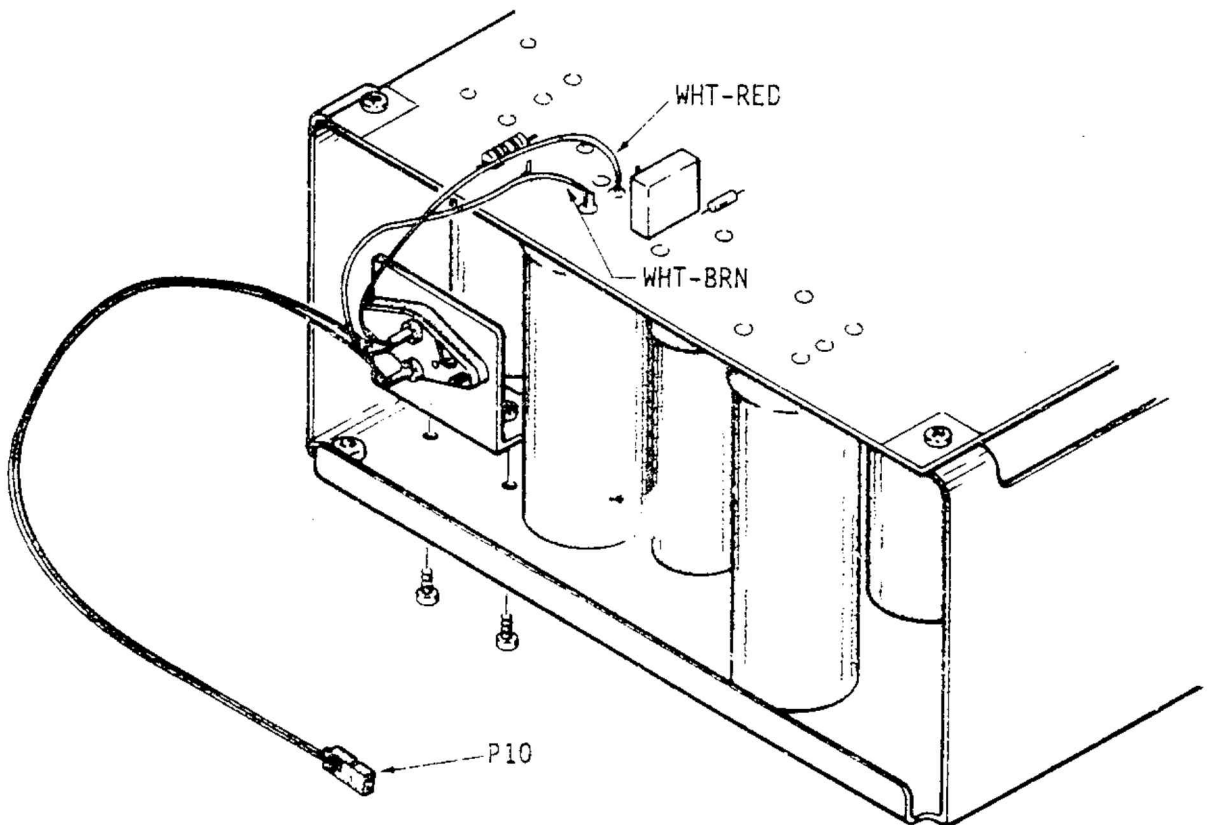

Fig. 2. Voltage regulator assembly mounting
- () 4. Install the +5V L regulator assembly as shown in Fig. 2, using the two 4-40 screws (included in the kit). To ensure maximum heat transfer, apply silicone grease between the bracket and the power unit chassis.